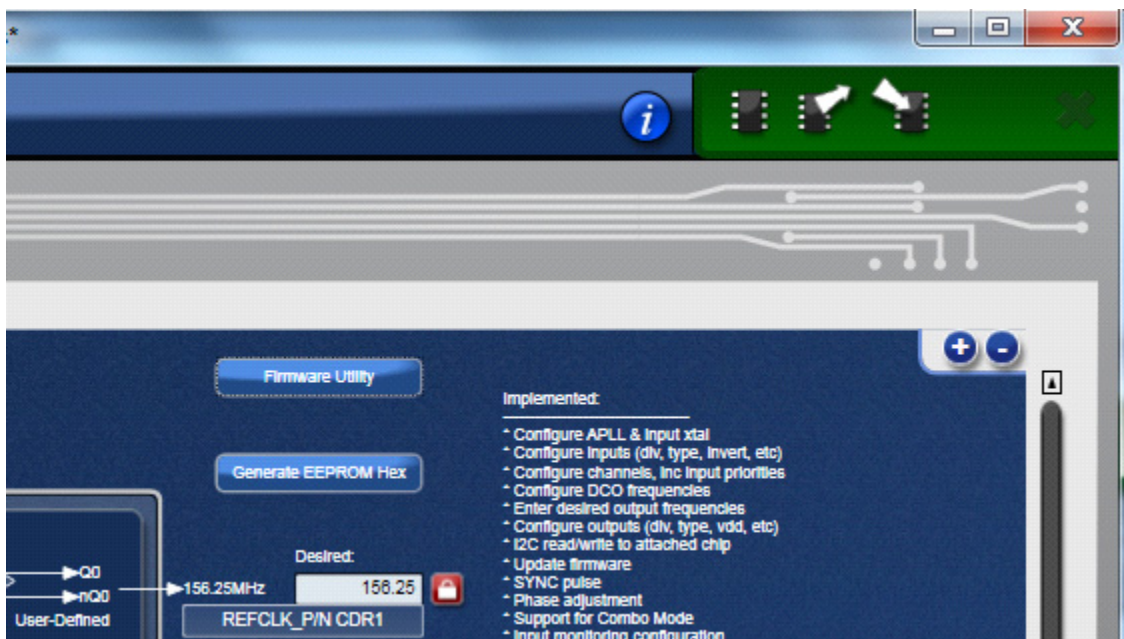

Figure 10. A Green Band Appears when a Valid Connection is Made
- Click on the chip symbol at the upper-right corner of the GUI window to initiate the connection. The connection is valid when a green band appears at the upper-right corner of the window, as shown in Figure 10.